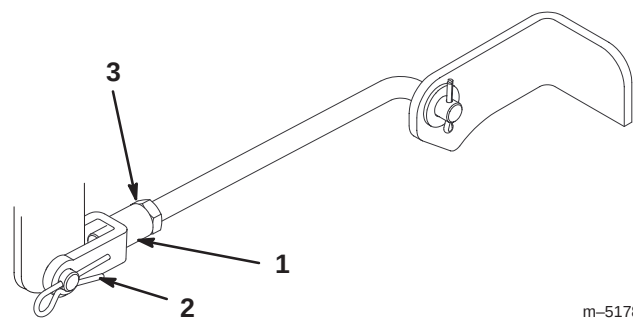

Figure 40
7. To adjust the front-to-rear blade slope, remove the hairpin cotter from the front trunion yokes and loosen the jam nuts (Fig. 40).
8. Rotate the yokes on the rods to change the adjustment (Fig. 40). To raise the front of the mower, tighten the yokes (shorten the rods). To lower the front of the mower, loosen the yokes (lengthen the rods).